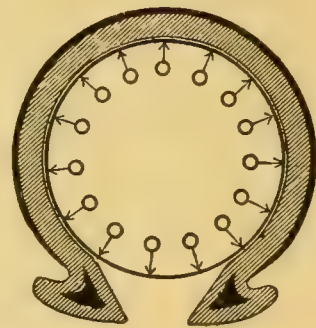

FIGURE 37.—A few greatly magnified molecules are shown striking the tire and so exerting pressure.
29. Pressure of Confined Air. — The air that has been pumped into an automobile tire from the atmosphere, where it exerted a pressure of 15 lbs/in², may attain a pressure against the inner walls of the tube of 75 lbs/in². The pressure of this confined air is caused by the constant striking of the molecules of air against the walls of the inner tube (Figure 37). We have seen that air molecules move with the speed of a rifle bullet. A rain of bullets from a machine gun will batter down an obstruction of considerable strength. In a similar way the billions of molecules that are constantly